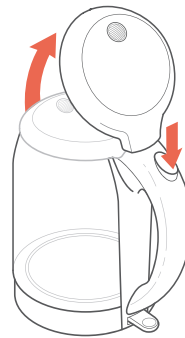

Figure 1.1
3. Press the **Lid Release Button** to open the lid. [Figure 1.1]